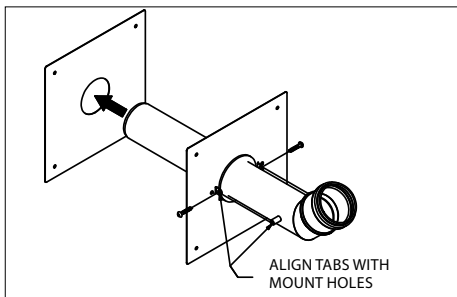

Figure 12
section through the Exterior Wall Plate and align the mounting holes of the vent pipe with the tabs of the Exterior Wall Plate (**Figure 12**). Secure the termination vent to the wall plate's tabs with the black sheet metal screws provided. Do not over-tighten the screws. Add RTV silicone sealant around the perimeter of the wall plate for weather protection. Mount the Exterior Wall Plate to the exterior wall with (4) 1-1/2" screws or other hardware appropriate for your wall. If you live in an area where icing is a concern, be sure to orient the Single Horizontal Termination so it is pointed upward. This will prevent icicles from forming on the end of the cap and will allow rain to enter the vent, thereby diluting the acidic condensate.